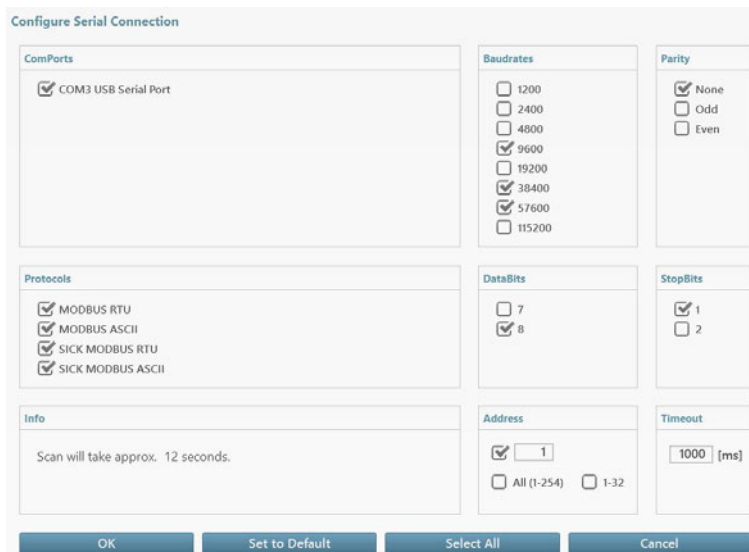

Fig. 47: Dialog window “Configure Serial Connection” for specifying advanced search options
- ▶ Use the options in the window displayed to allow FLOWgate™ to search with advanced options → Fig. 47, especially when parameters have possibly been changed (e.g baudrate).